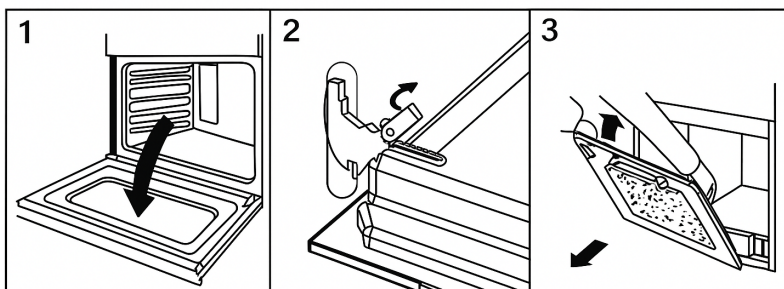

Figure 15
- Pull the door toward you to remove it from the hinge slots. The door will come away from the oven gently. (See Figure 15.)